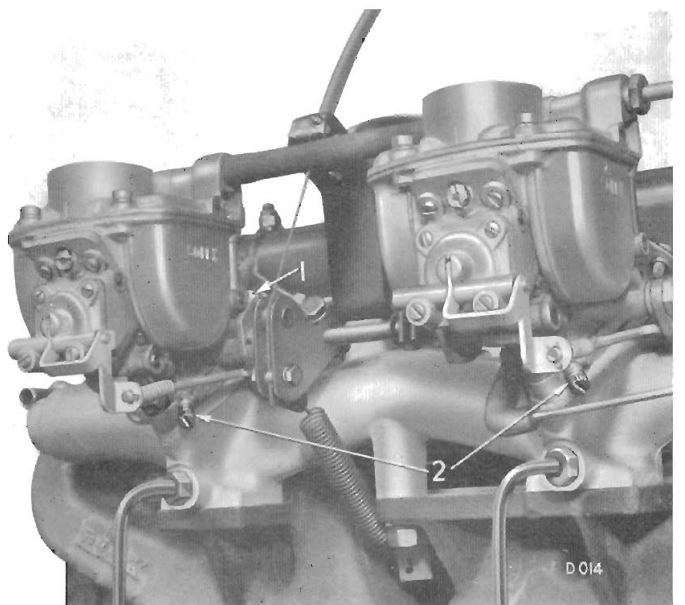

Fig. 26. R.H. view of carburettors, showing mixture control screws (2) and throttle stop screws (1)
- (c) Start the engine and adjust the slow running control screws (2) Fig. 26 equally until the idling speed is approximately 500 r.p.m.